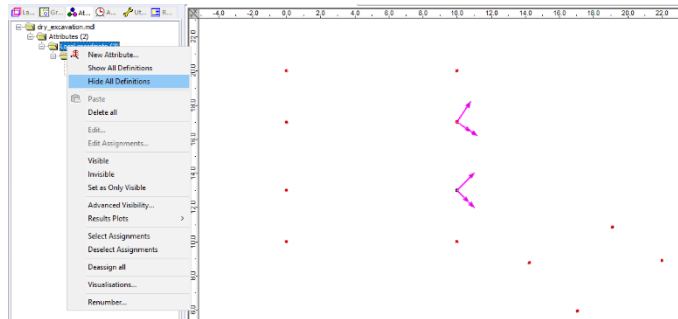

Figure 7: Hide local coordinate systems
- In the Attributes treeview, right-click on **Local Coordinate** and select **Hide all definitions** (figure 7) to hide the local coordinate axes.